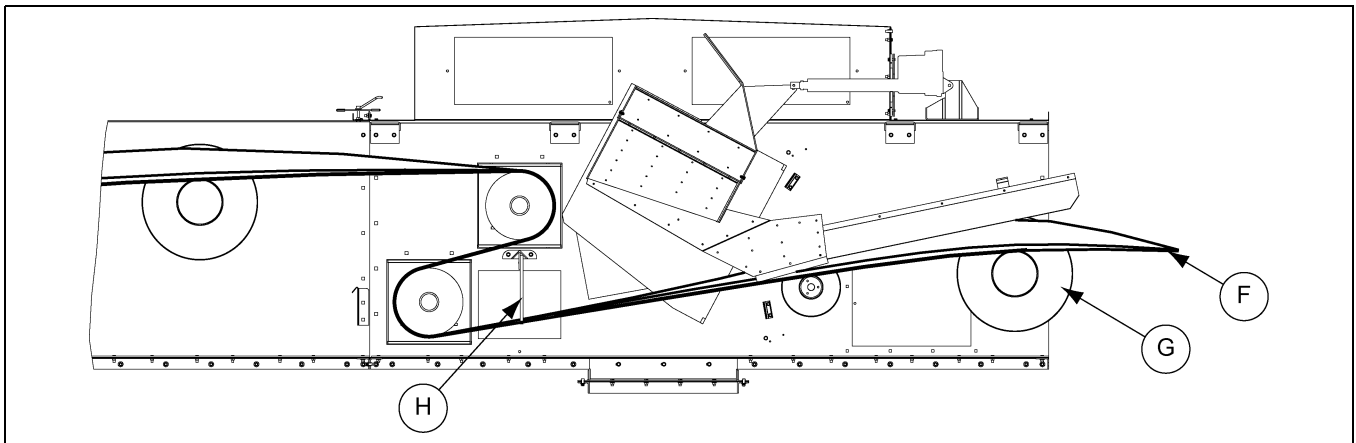

Figure 3G
5. Continue to install the belt (F) under the belt wiper (H) and pass over the third and fourth idlers (G) in the tripper assembly. *(See Figure 3G.)*